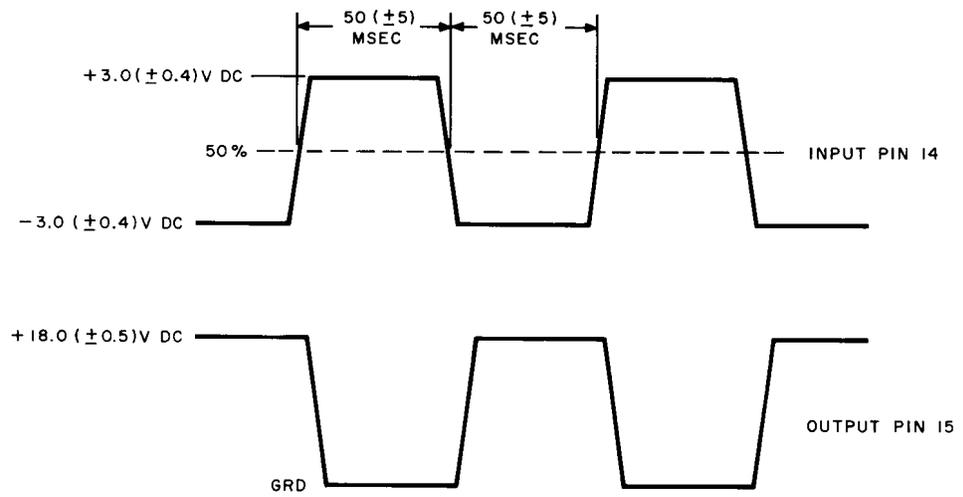

Fig. 62A — Remote Test Circuit Pack Test
- (5) The input waveform at terminal 14 and the output waveform at terminal 15 shall be as specified in Fig. 62A. No time base measurements need to be made.